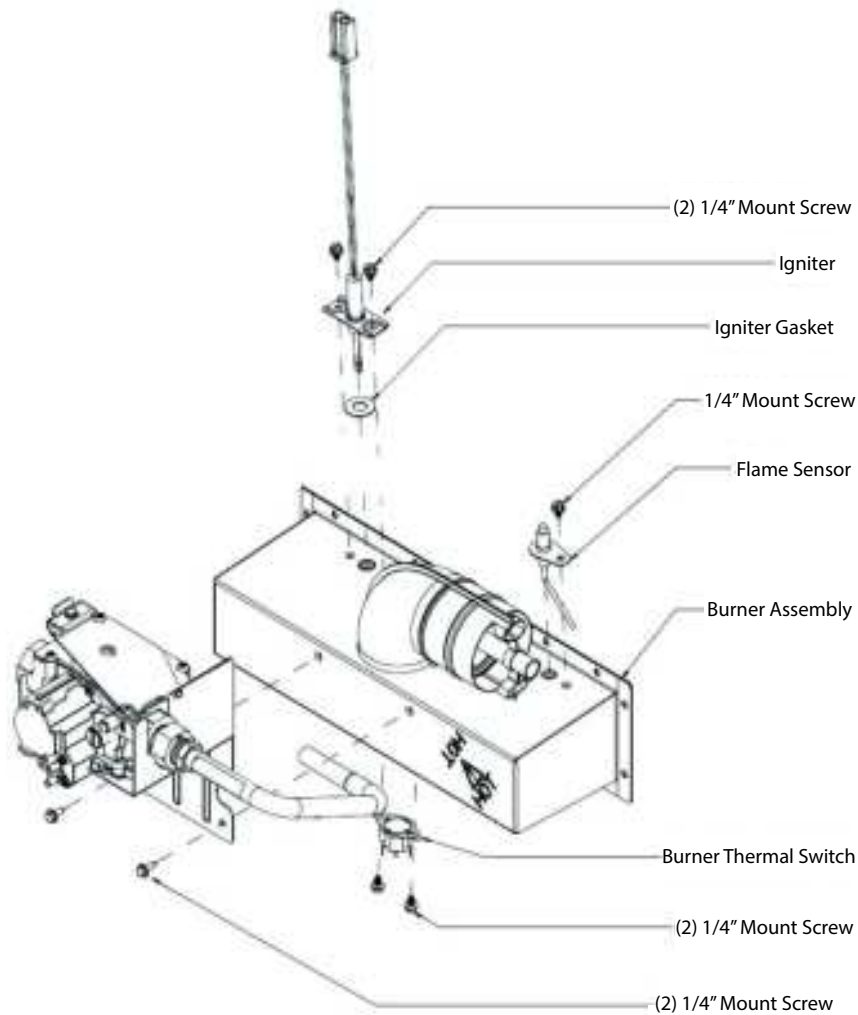
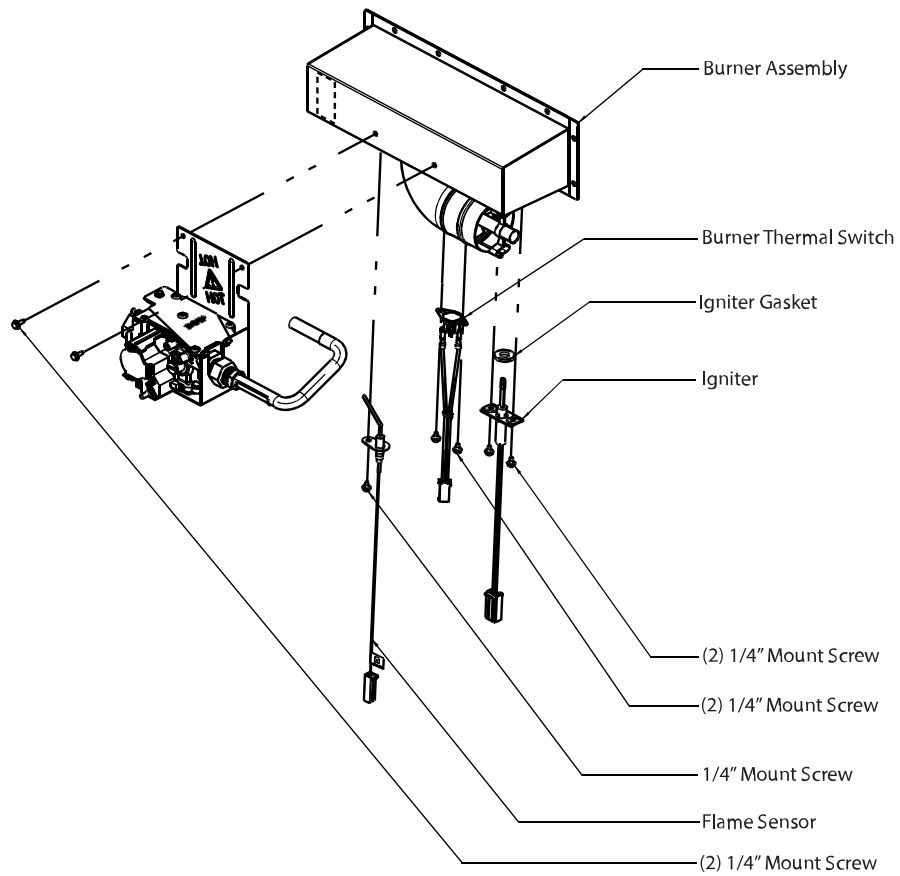

Fig. 1 – Non-Condensing Ultra Low NOx Furnace Burner Assembly
Fig. 2 – Non-Condensing Ultra Low NOx Furnace Burner Assembly
1. Disconnect the gas supply pipe from gas valve and remove pipe from the furnace casing. See Fig. 1 and Fig. 2.